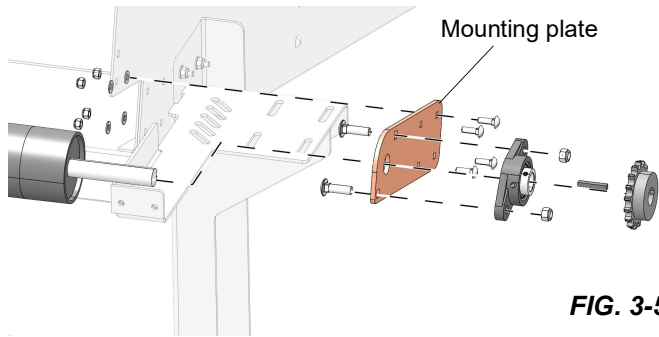

FIG. 3-5
5. Install the roller mounting plate on the motor side as shown in FIG. 3-5.